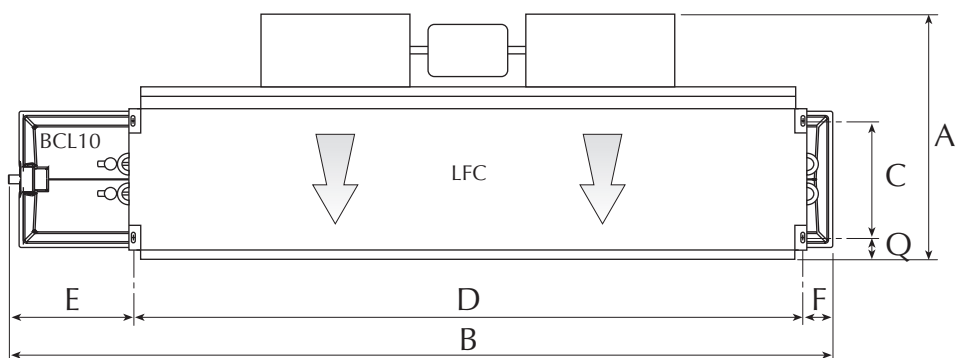

fig.5
- Use wall plugs (not supplied) for fixing to the ceiling as indicated in Fig. 5.